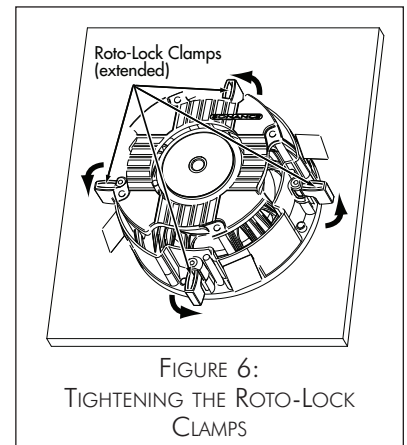

FIGURE 6: TIGHTENING THE ROTO-LOCK CLAMPS
5. Tighten the four screws on the front of the speaker baffle. The Roto-Lock clamps will automatically rotate into position and begin clamping the speaker (*Figure 6*). When you notice resistance on the screws the speaker has been clamped successfully.